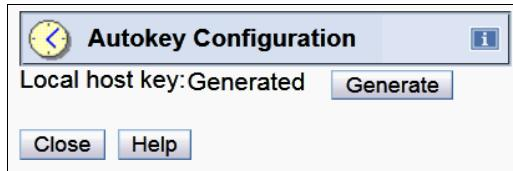

Figure 8-22 Generate Autokey
- The **Autokey Configuration** window opens (Figure 8-22). To generate keys, click **Generate**.